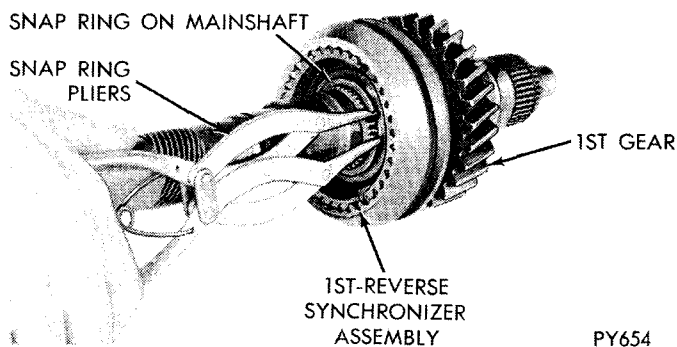

Fig. 22—Removal or Installation—1st-Reverse Synchronizer Clutch Gear Snap Ring
retains the 1st-Reverse synchronizer clutch gear (Fig. 22).
(16) Install clutch gear snap ring on mainshaft (Fig. 22).